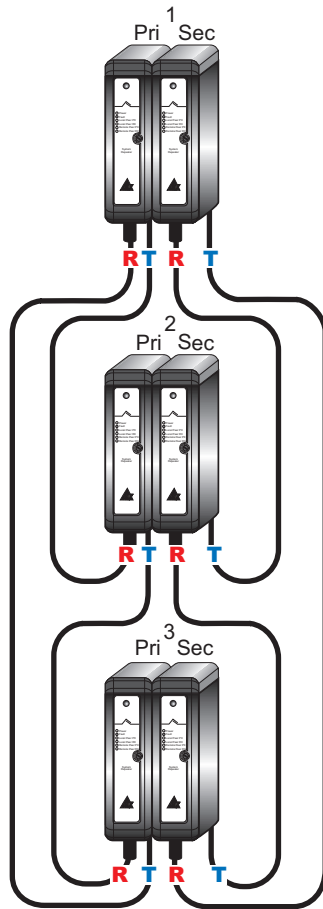

Figure 2-10 SISNet Repeaters Connected by Multimode Cable in a Counter-Rotation Fiber-Optic Ring Topology
The SISNet Repeaters connect transmit to receive, transmit to receive to form a fiber-optic ring. It is highly recommend that you connect SISNet Repeaters in a counter-rotation topology in which two signal paths, one in each direction, exist in the ring. This topology increases availability in the event of a failure in a single SISNet Repeater pair. Figure 2-10 shows a counter-rotation topology.
3. Connect together all SISNet Repeaters as shown in Figure 2-10.
Figure 2-10 shows a multimode fiber-optic ring with a counter-rotation topology. The primary SISNet Repeaters are connected 1-2-3-1 and the secondary are connected 3-2-1-3. If any single pair in this ring fails, the remaining two pairs continue to communicate. No SISNet Distance Extenders are used in this remote peer ring.